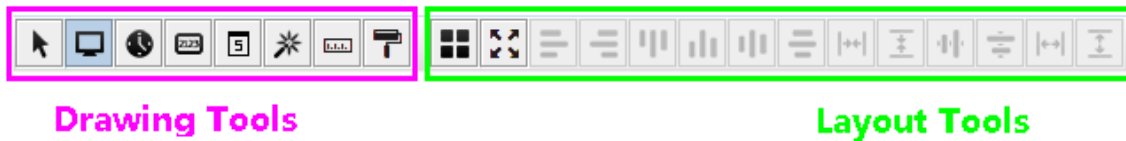

Figure 3.5-31 Edit Tool Bar
- **Edit Tool Bar:** as shown in **Figure 3.5-28**, the tool bar labeled in green rectangle is the edit tool bar, it provides the editable used command for model configuration, such as drawing and layout, as shown in **Figure 3.5-31**, this tool bar is at the top edge of the working area by default.